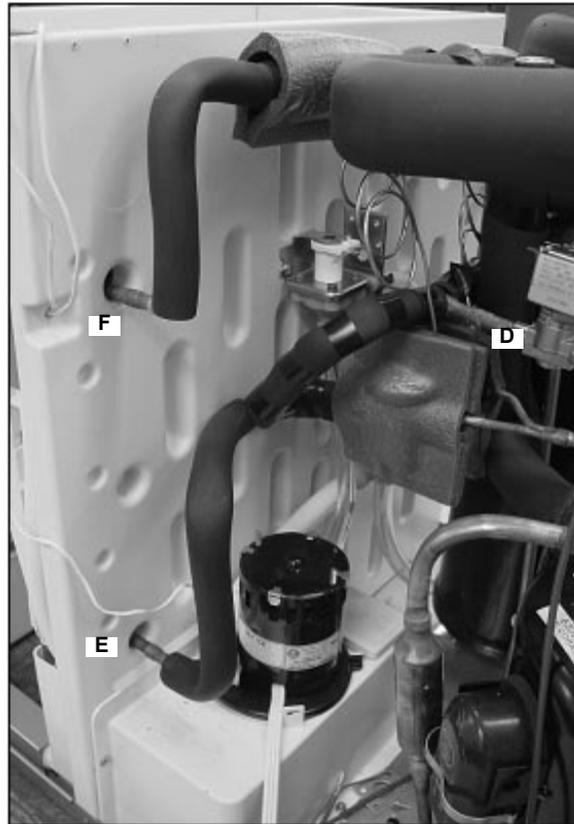

Figure 39.
Disassemble the hot gas valve (D) to allow nitrogen to flow through the system (Figure 39).
38. Using clamps or other means, secure the insulation away from the joints, and braze the Heat Exchange Suction Line to the evaporator inlet (E) and outlet (F) (Figure 39).